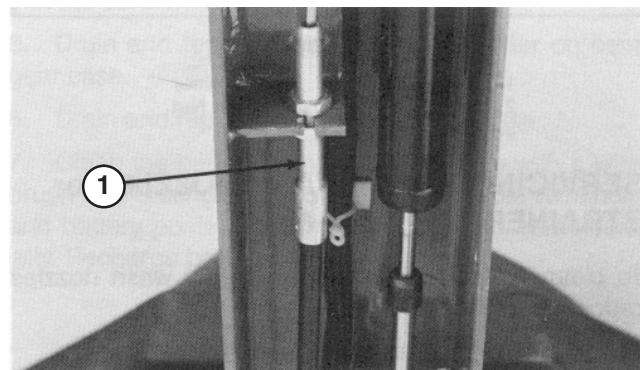

Figure 36
2. Loosen the upper jam nut securing the brake cable to the bracket (Fig. 36).